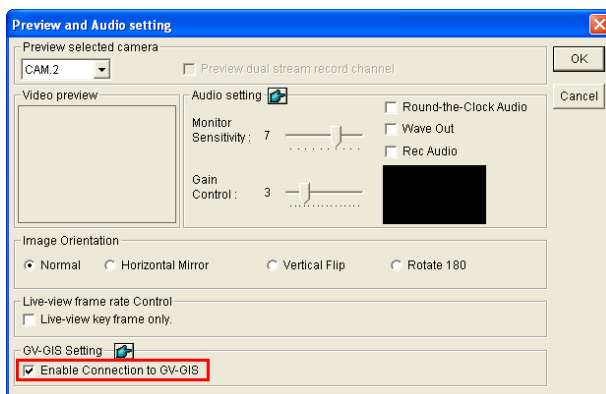

Figure 11-92
2. Ensure **Enable Connection to GV-GIS** is enabled for desired IP devices to receive the GPS data from those IP devices (Figure 11-92).